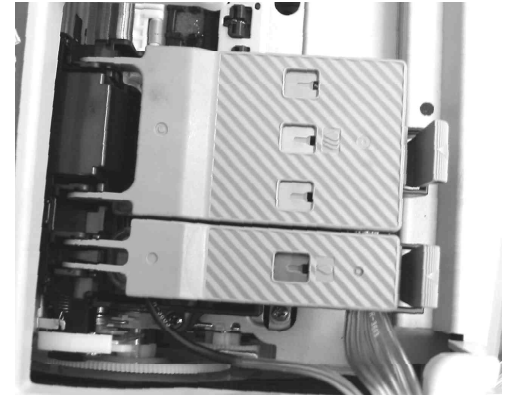

Fig. 9
4. Close the cartridge holder lids until they snap into place. Tubing will protrude from beneath the black cartridge lid and should sweep towards the left side of the printer. The black tubing will protrude towards the back of the printer. See Fig. 9.